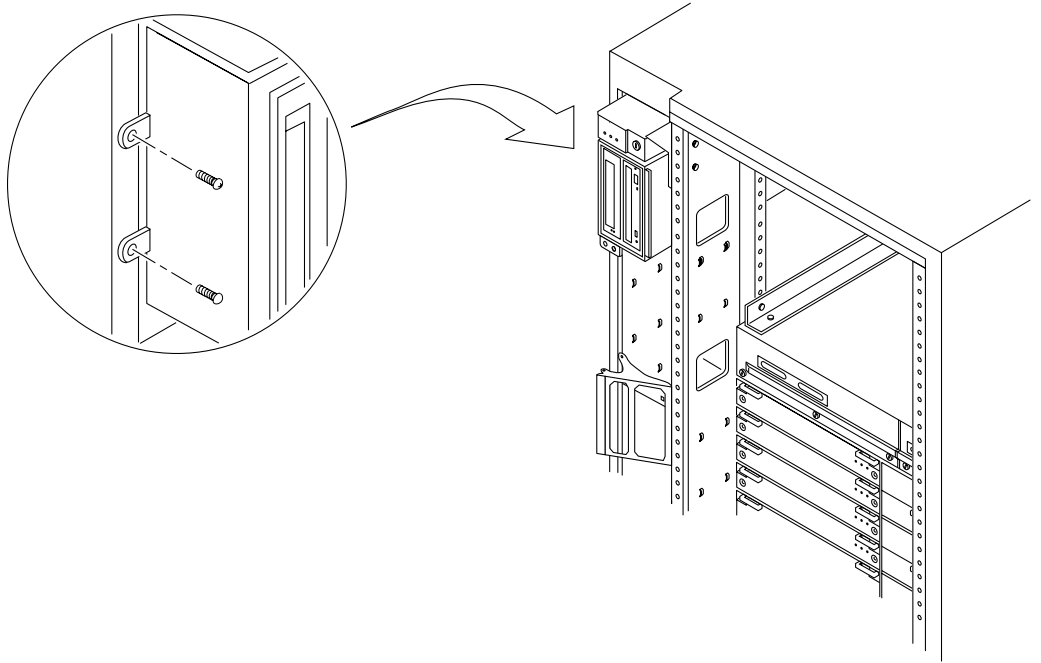

FIGURE E-9 Removing the Two Screws that Attach the media tray to the Cabinet Pillar
- 10. Remove the two screws (FIGURE E-9) that hold the media tray.**
- 6. Replace the two screws that attach the media tray to the cabinet pillar (FIGURE E-9).**